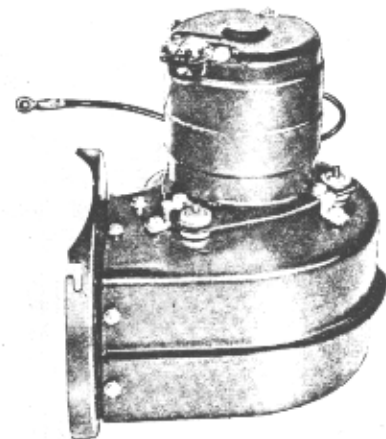

Figure 14—Ventilating Air Blower
1. The ventilating air blower assembly (Figure 14) which consists of a heavy duty, ball bearing, 1/40 H. P. motor, "squirrel cage" type blower and housing, is mounted on the upstream end of the heater by means of four studs on the heater case. This blower assembly provides a ventilating air flow of approximately 6 pounds per minute. The blower is suppressed to prevent interference with radio equipment.